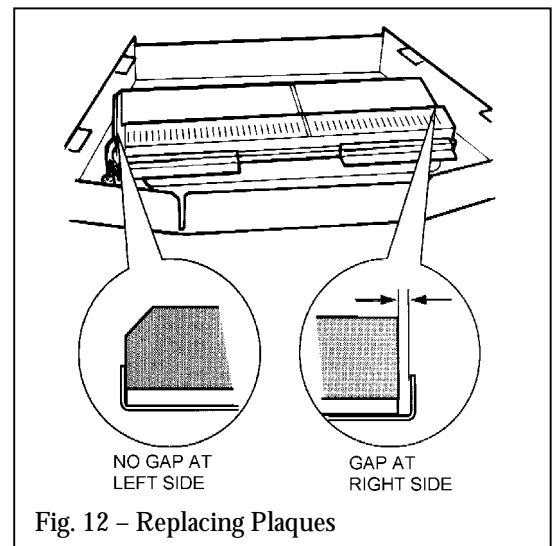

Fig. 12 – Replacing Plaques
- Place the new left hand plaque in position. The left side of the plaque must touch the inside edge of the retaining flange at the left side of the burner well. ***It is important that the plaque is accurately positioned so that it has the correct relationship to the pilot - See figure 12***